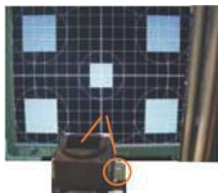

Fig.2
- Set measuring/viewing selector to measuring position for reset analyzer .(zero calibration) as Fig.2